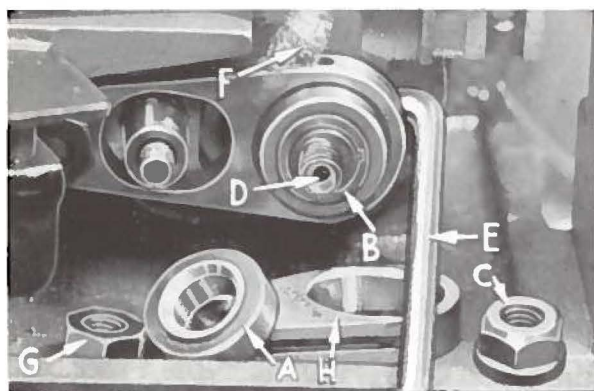

Fig. 13
If eccentrics are unusually tight fitting, in addition to removing nut (C, Fig. 13) from shaft (D), it may be helpful to remove nut (G) and feed driving connection (H). Then continue as originally suggested.